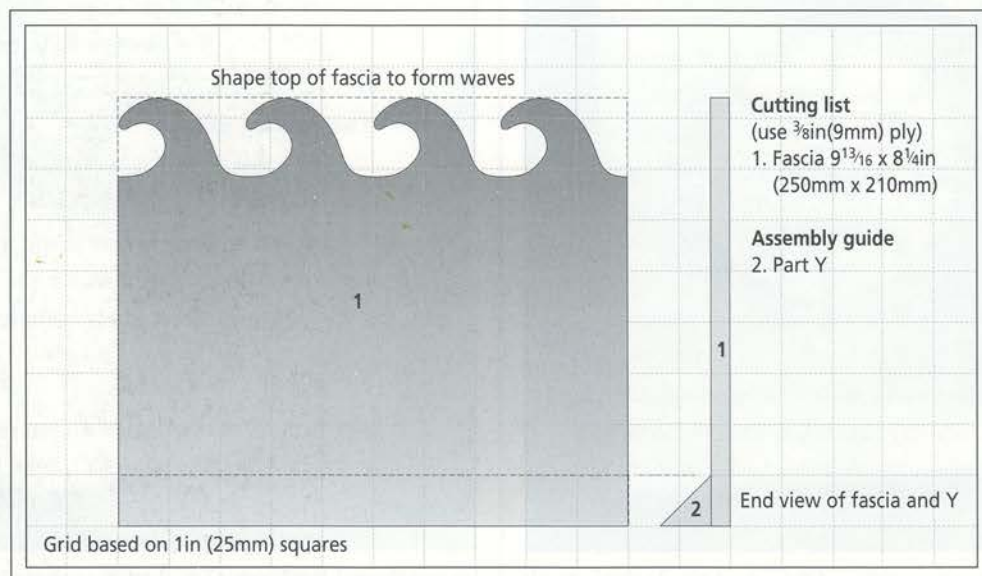

Fig 21.11 The fascia and part Y.
Cut out the fascia from the details shown in Fig 21.11. Cut to size the triangular section (Y), which is glued to the bottom of the fascia in the position shown in Fig 21.11. The triangular section is softwood and can be purchased from your local timber merchant or DIY shop. Prime and paint the fascia to obtain a sea effect.